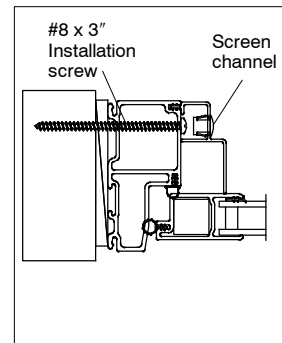

Figure 2
1. Mark hole locations in side jamb using spacing chart above. See figure 2. Carefully drill marked holes through the screen channel and jamb cavity using a 3/16" drill bit.
2. Enlarge the 3/16" screen channel hole by using a 3/8" drill bit to carefully drill through the interior wall of the screen channel **only**. The jamb cavity hole is not enlarged. See figure 2.
3. Install unit following supplied installation instructions. When unit is properly installed, apply #8 x 3" Phillips pan head screws through side jamb into framing at drilled locations. See figure 2.